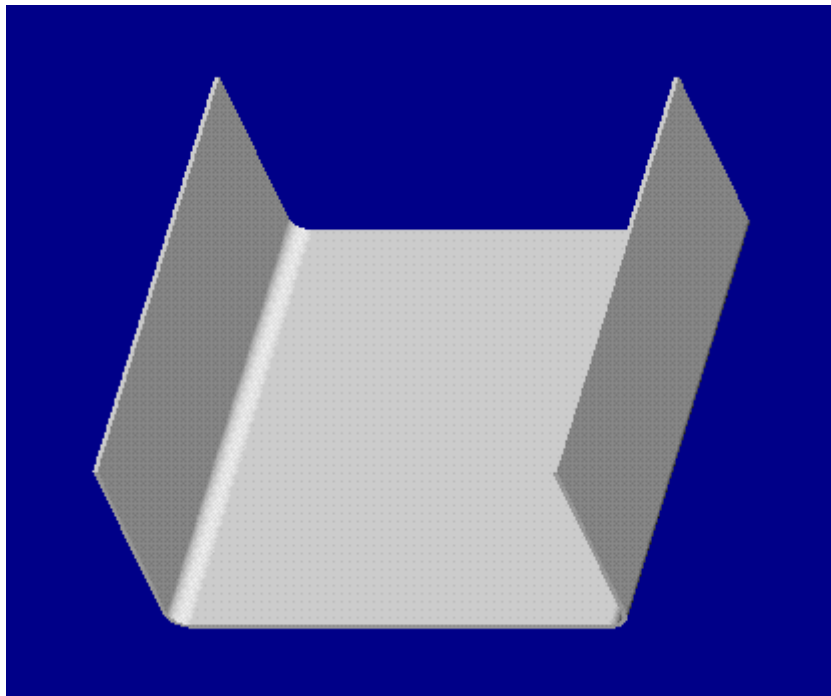

Figure 1
1. Create the wall shown in Figure 1 by selecting **Feature, Create, Sheetmetal, Wall, Extruded,** and **Done.** Select **One Side** and **Done.** Select DTM3 as the sketching plane, **Okay,** and DTM2 as the **Top** plane.